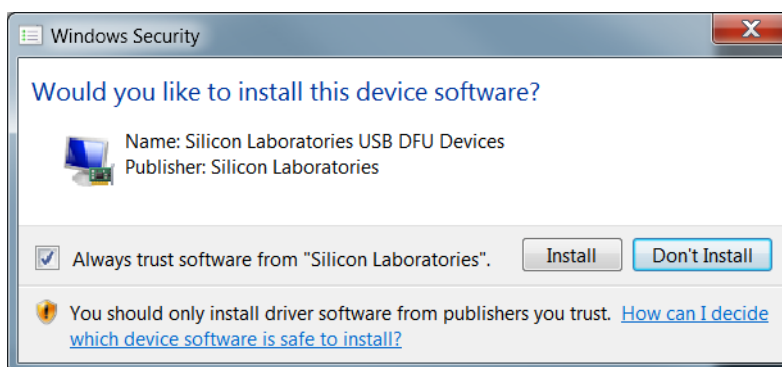

Figure 6. Silicon Laboratories Certificate Installation
3. The installer will prompt to confirm if you would like to install this device software. Click the check box and press Install to continue. The security prompt is shown in Figure 6.
- The installer will take a few minutes to install the necessary files. After the necessary files are copied, the dialog shown in Figure 6 is displayed on the screen. Press the Finish button to complete the installation.